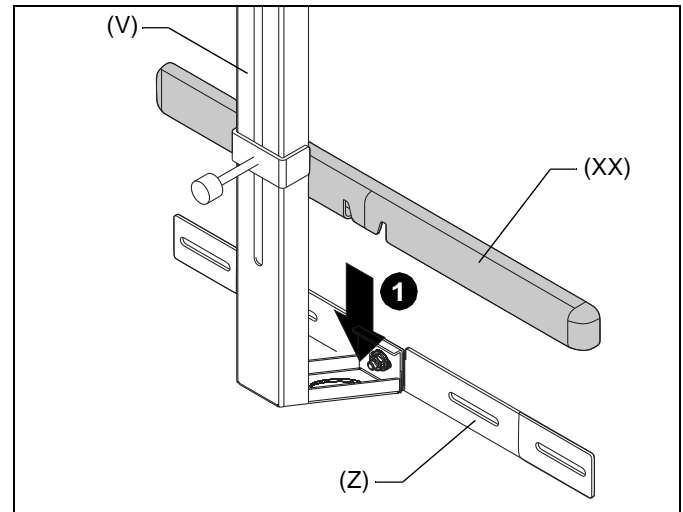

Figure 21
1. Lower the lower bracket cover (XX) over the lower wall bracket (Z), centering front tab over adjustable leg (V). (See Figure 21)